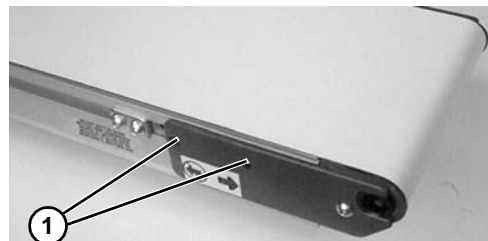

Figure 9
2. Locate drive mounting position and remove two (2) screws (Figure 9, item 1).